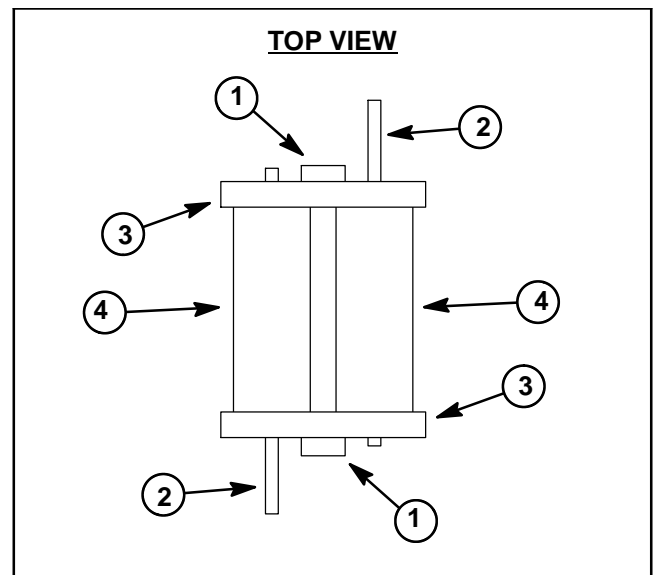

Figure 21
5. Install a compression spring tool rod (see Special Tools) through holes in each spring cradle (item 1), then install nuts and washers on both ends of each rod. Tighten one nut on each rod to secure compression springs (item 2). **NOTE:** Extended portion of each compression spring tool must be on opposite ends so cap screws (item 7) that secure spring cradles to control arm towers can be removed (Fig. 21).
6. Remove flange nut (item 3) and cap screw (item 4) from lower end of each stabilizer link (item 5).
7. Remove lock nut (item 6) and cap screw (item 7) securing each spring cradle to control arm towers (item 8), then remove springs and cradles along with the stabilizer links.